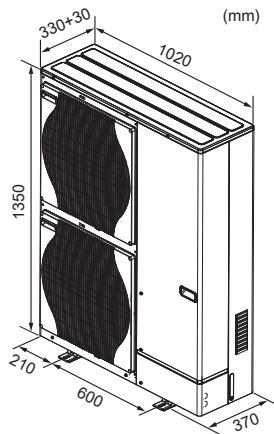

Fig. 1-2
2.2. Outline dimensions (Outdoor unit) (Fig. 1-2)